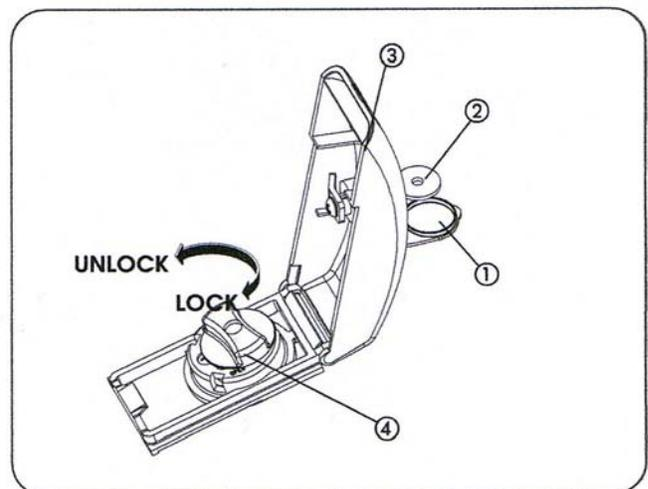

Figure 3. Manual Release
Release the operator as shown in Fig. 3. Put the operator into position and attach the rear fork to the rear mounting bracket using the short brass pin, washer, and nut.
Re-engage the operator by turning the red knob clockwise until snug. (see Figure 3)
- Lift the key lock cover (figure 3) and insert the manual release key.
- Turn the key 90° clockwise to open the locking cap cover.